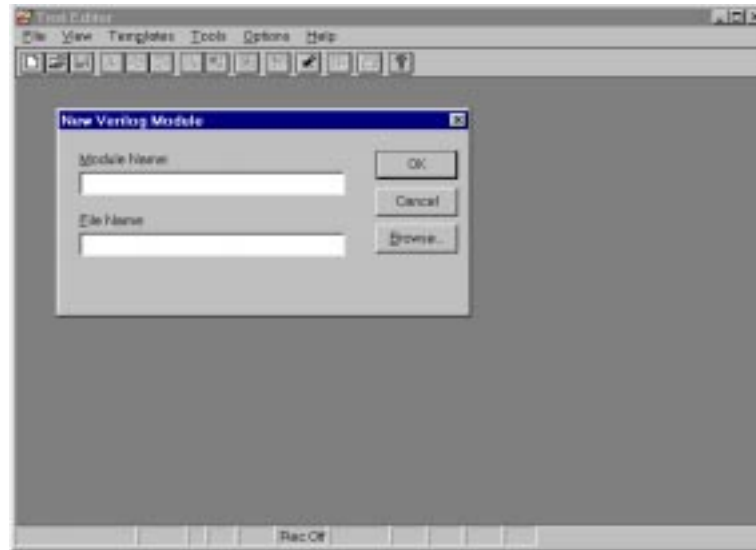

Figure 3-27. Text Editor Window with New Verilog Module Dialog Box
2. In the New Source dialog box, choose Verilog Module and click **OK**. The Text Editor window appears together with the New Verilog Module dialog box (Figure 3-27).